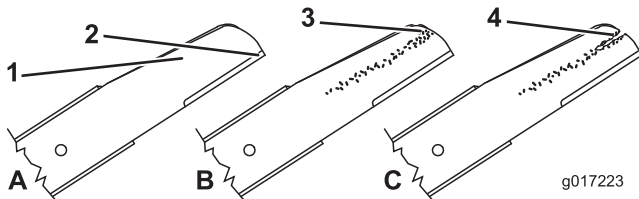

Figure 41
- Inspect the cutting edges (Figure 41). If the edges are not sharp or have nicks, remove the blades and have them sharpened or replace them.
- Inspect the blades themselves, especially the curved area (Figure 41).
Note: If you notice any damage, wear, or a slot forming in this area (Figure 41), immediately replace it with a new blade.